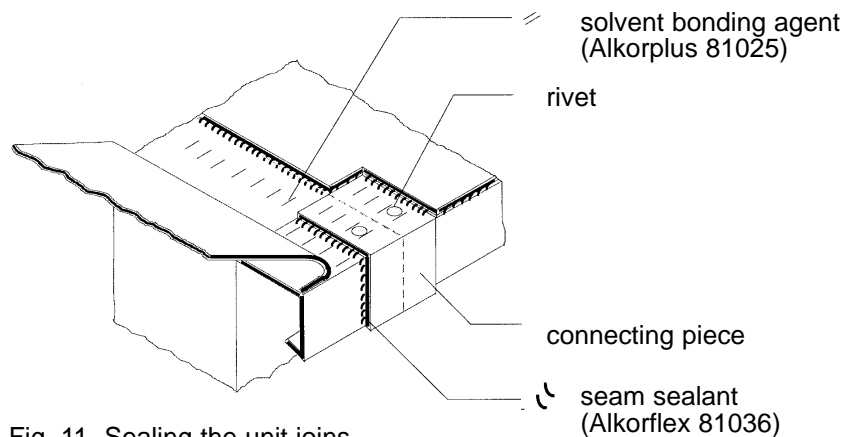

Fig. 11 Sealing the unit joins
4. Seal where units join (see Fig. 11).